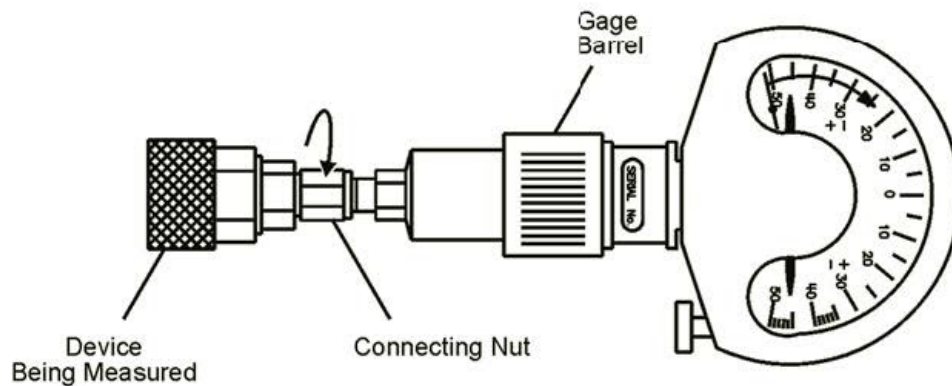

Figure 3-3 Gaging 2.4 mm and 2.92 mm connectors
- 3 Zero the connector gage (refer to Figure 3-3):
- 4 Gage the device connector (refer to Figure 3-3):